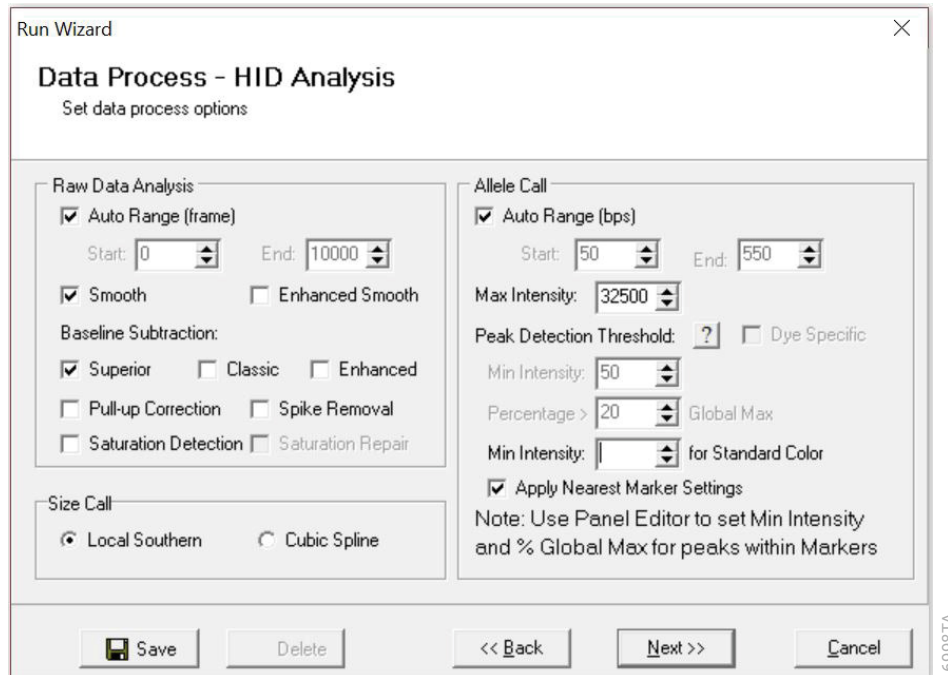

Figure 21. The 'Data Process' window for an analysis method.
9. The 'Data Process' window will appear (Figure 21). For the Raw Data Analysis, we recommend using Auto Range, Smooth, Superior Baseline Subtraction and Local Southern for the Size Call.